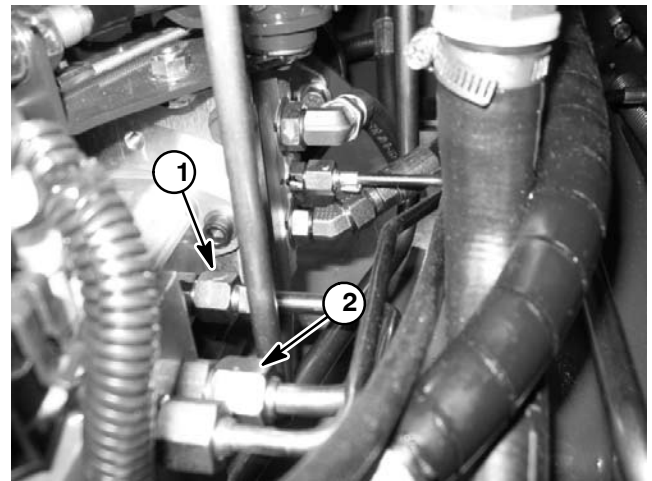

Figure 23
4. Remove hydraulic tube that connects the gear pump (P2) outlet to port P of hydraulic manifold (Fig. 23).